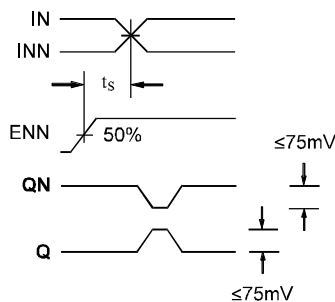

Figure 1. Setup Time
- The setup time is the minimum time that ENN must be asserted prior to the next transition of IN/INN to prevent an output response greater than  $\pm 75$  mV to that IN/INN transition (see Figure 1).